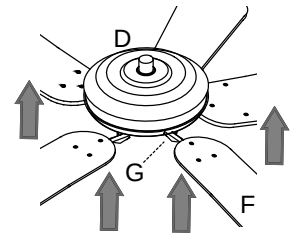

Fig. 5
5. Insert remaining motor screws (K), along with lock washers (M). [Fig. 5] Tighten all motor screws (K) securely.